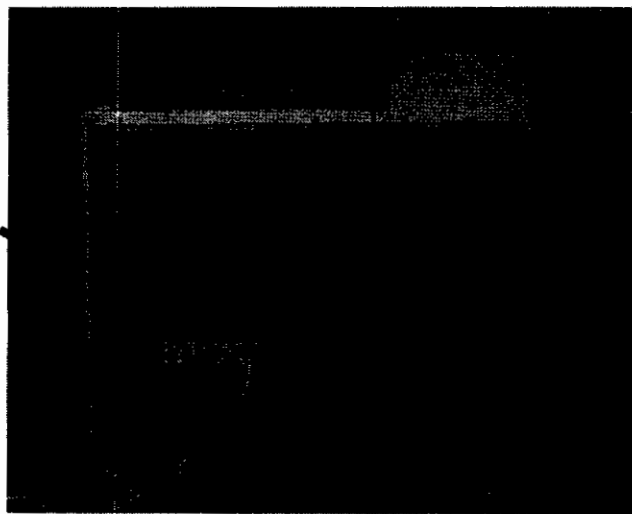

Figure 2-Q
2. Plug the power cord into the power inlet **1** (Figure 2-Q) located on the rear of the instrument .
1. Connect one end of the data cable to the link inlet **2** (Figure 2-Q) located on the rear of the instrument, and the other end to the bottom right side of the Prisma Slide Stainer.